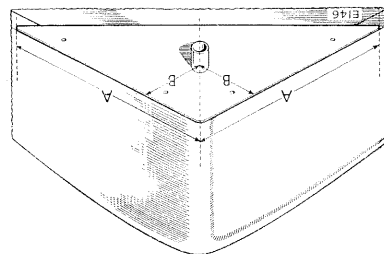

Fig. R-4—Fitting corner plate to bottom front corners of seat cushion
2. Drill four .204 in. (5 mm) diameter holes (drill No. 6) and one $\frac{3}{16}$ in. (8,5 mm) diameter hole as shown at Fig. R-4.